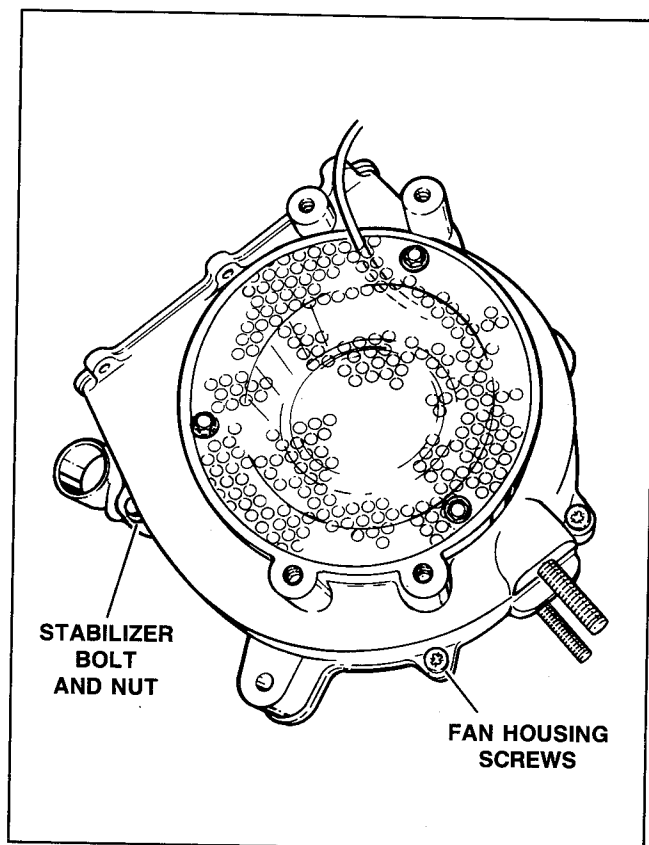

Figure 7-13 - Fan Housing Removal
- e. See Figure 7-13. Remove the stabilizer bolt and nut, screws and pull fan housing free.